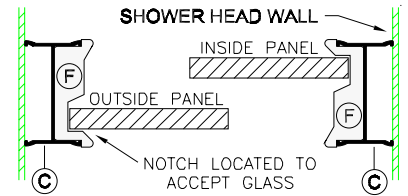

figure 4
5. Reposition Wall Jambs (B) as before and secure Jambs to shower walls using three (3) 8112 Installation Screws (G). Make sure to attach Panel Bumpers (F) to top and bottom installations holes as shown in exploded view - sheet 1. Please note that notches on bumpers are positioned so as to accept glass insertion, as shown in figure 4.
6. Measure the wall to wall opening at top of Wall Jambs and cut the Header (C) to the measurement obtained. Position and install the Header over the Wall Jambs.